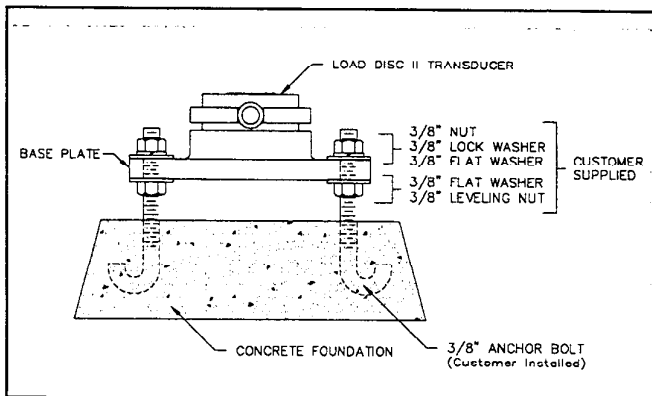

Figure 2-3. Load Disc II Transducer on Concrete Foundation with Anchor Bolts.
6. Drill holes in the floor and install four anchor bolts (customer supplied) per base plate. Be sure that anchor bolts match the hole pattern and that they are straight. Kistler-Morse recommends using 3/8"-24 UNF\*, 7/16"-20 UNF\*\*, or 3/4"-10 UNC\*\*\* anchor bolts that are grade ASTM-A325 or stronger. The threaded length of the anchor bolts should provide enough length for the thickness of the base plate, the thickness of the leveling nut and flat washer under the base plate, and the thickness of the lock washer, flat washer, and nut on top of the base plate (Figure 2-3).